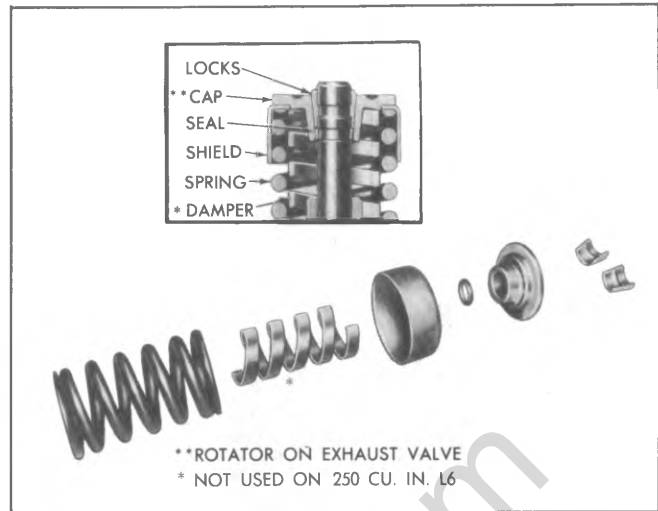

Fig. 6A2-26--Valve Spring Installation - Small V-8
- b. Set the valve spring (with damper); and valve cap in place (fig. 6A2-27).